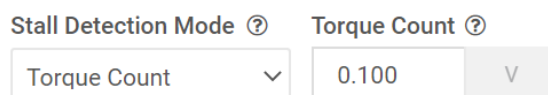

Figure 3-10. Torque Count mode
- **Torque Count Mode:** This is the default setting of the stall detection mode in the GUI. In order to detect a motor stall in this mode, learning must be performed first. The stall threshold for this mode is automatically stored in the device after a successful learning. Prior to switching to learning mode the motor is started in torque count mode with desired motor driver parameters. While the motor is running the corresponding torque count voltage is displayed under 'Torque Count', see Figure 3-10. Torque count analog voltage is available on the TRQ_CNT/STL_TH pin of the driver.